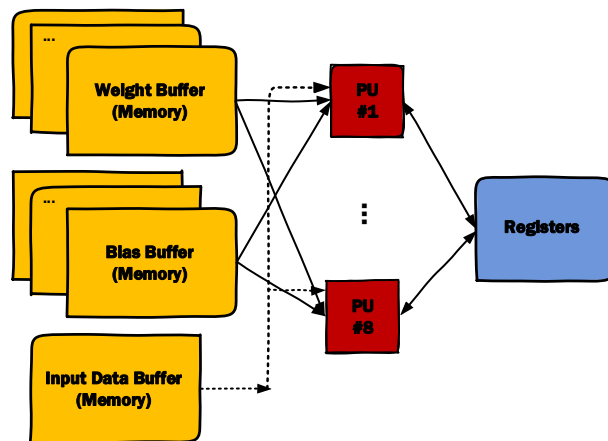

Figure 3. Resources for hardware implementation of neural network in this project
- In this project, you should implement the design based on access to limited hardware resources. Consider the case that only **8 hardware neurons** are provided as resources to perform all network computations (Figure 3).
- As mentioned before, to make better use of resources, all network computations should be performed using the limited number of Neurons (multiply-accumulate units (MACs)). Therefore, it is required to design a system **controller** and specify a **memory access pattern** (read and write). Use separate **single port memory buffers** for input data and network parameters (weights and biases). Also to save the middle data (the output values of a layer that are inputs of the next layer) you can use **registers**. (See Figure 3)